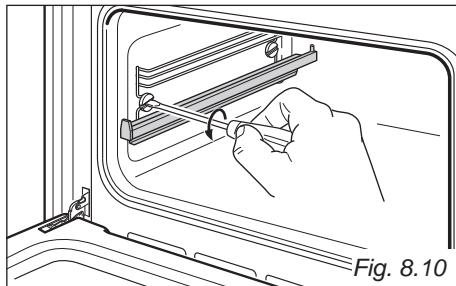

Fig. 8.10
- Remove the side racks by unscrewing the fixing screws (fig. 8.10).